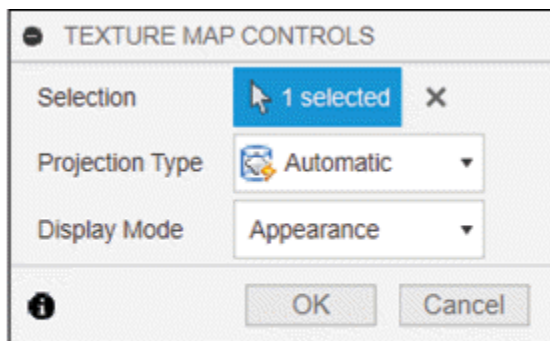

Figure-10. Updated TEXTURE MAP CONTROLS dialog box
- The **Select** button of **Selection** option is selected by default. You need to select the texture of model. The updated **TEXTURE MAP CONTROLS** dialog box will be displayed; refer to Figure-10.